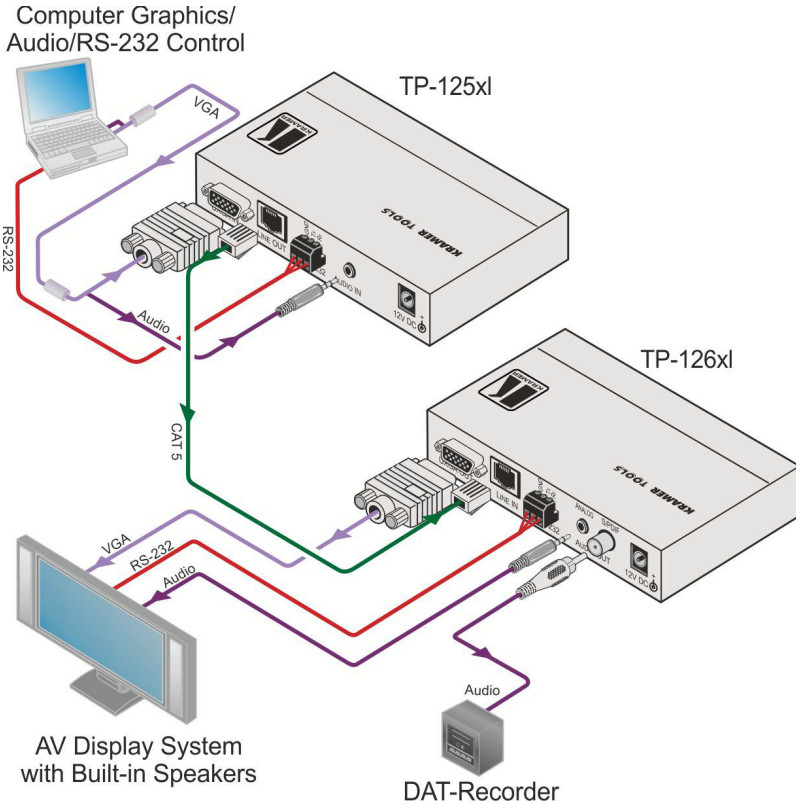

Figure 5: Connecting the TP-125xl Transmitter and TP-126xl Receiver
To connect the TP-125xl and the TP-126xl as illustrated in Figure 5:
- The computer graphics video source, (for example, the graphics output from a laptop) to the UXGA In 15-pin HD connector (F)
- The UXGA Out 15-pin HD (F) connector to the video acceptor, (for example, an AV display system)
4. Connect the power adapters to the power sockets on the **TP-125xl** and **TP-126xl**, and connect the adapters to the mains electricity (not shown in Figure 5).